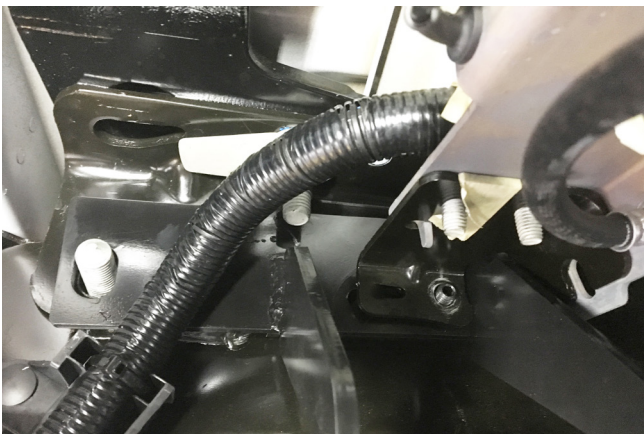
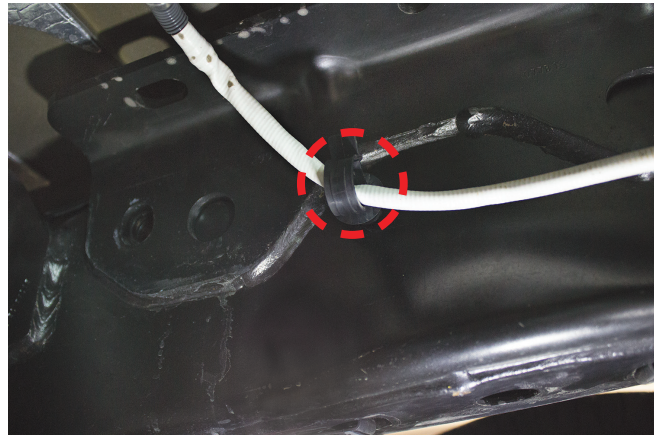

Fig. 24
Fig. 25
4. Set the upper brace (G) in place over the 50mm set screw (Y) and against the frame. Ensure the hole in the rear of the brace lines up with the fifth wheel bracket hole in the frame. Set the stock brake line bracket, previously removed, over the 50mm set screw and on top of the brace. Thread the M10 serrated flange lock nut (CC) onto the set screw. Reinstall the factory fifth wheel hardware previously removed (if equipped) or use the supplied 5/8" (Z, AA, BB) hardware through the frame and brace (Fig. 24 & Fig. 25). Leave loose at this time.